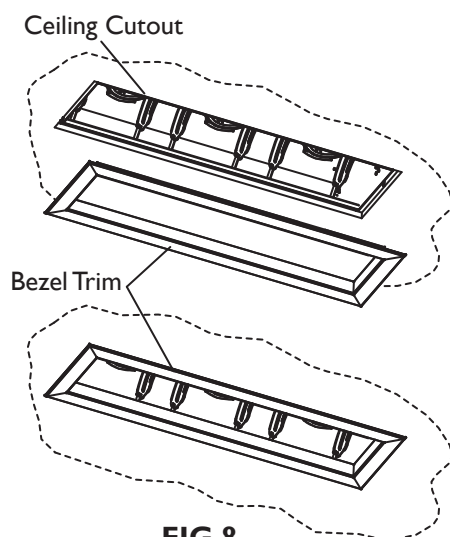
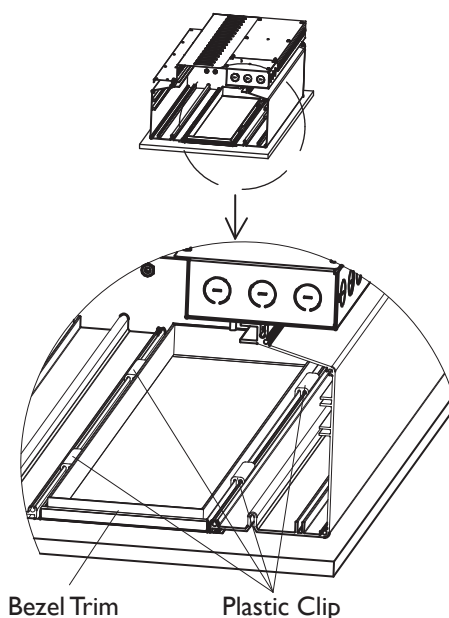
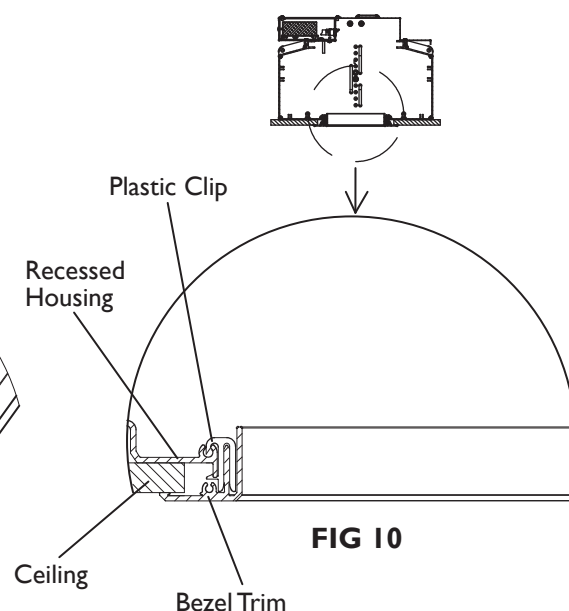

FIG 8
FIG 9
FIG 10
3.3 - Lift the bezel trim into the ceiling cutout (Fig. 8) and secure it by pushing it onto the plastic clips located on the recessed housing until the bezel trim is flush with the ceiling (Fig. 9, Fig. 10). Make sure the plastic clips are evenly spaced along the side of the ceiling cutout. For fixtures where portions of the bezel trim connect to each other, ensure that the plastic clip is positioned such that the connecting line of the bezel trim is in the centre of the plastic clip.